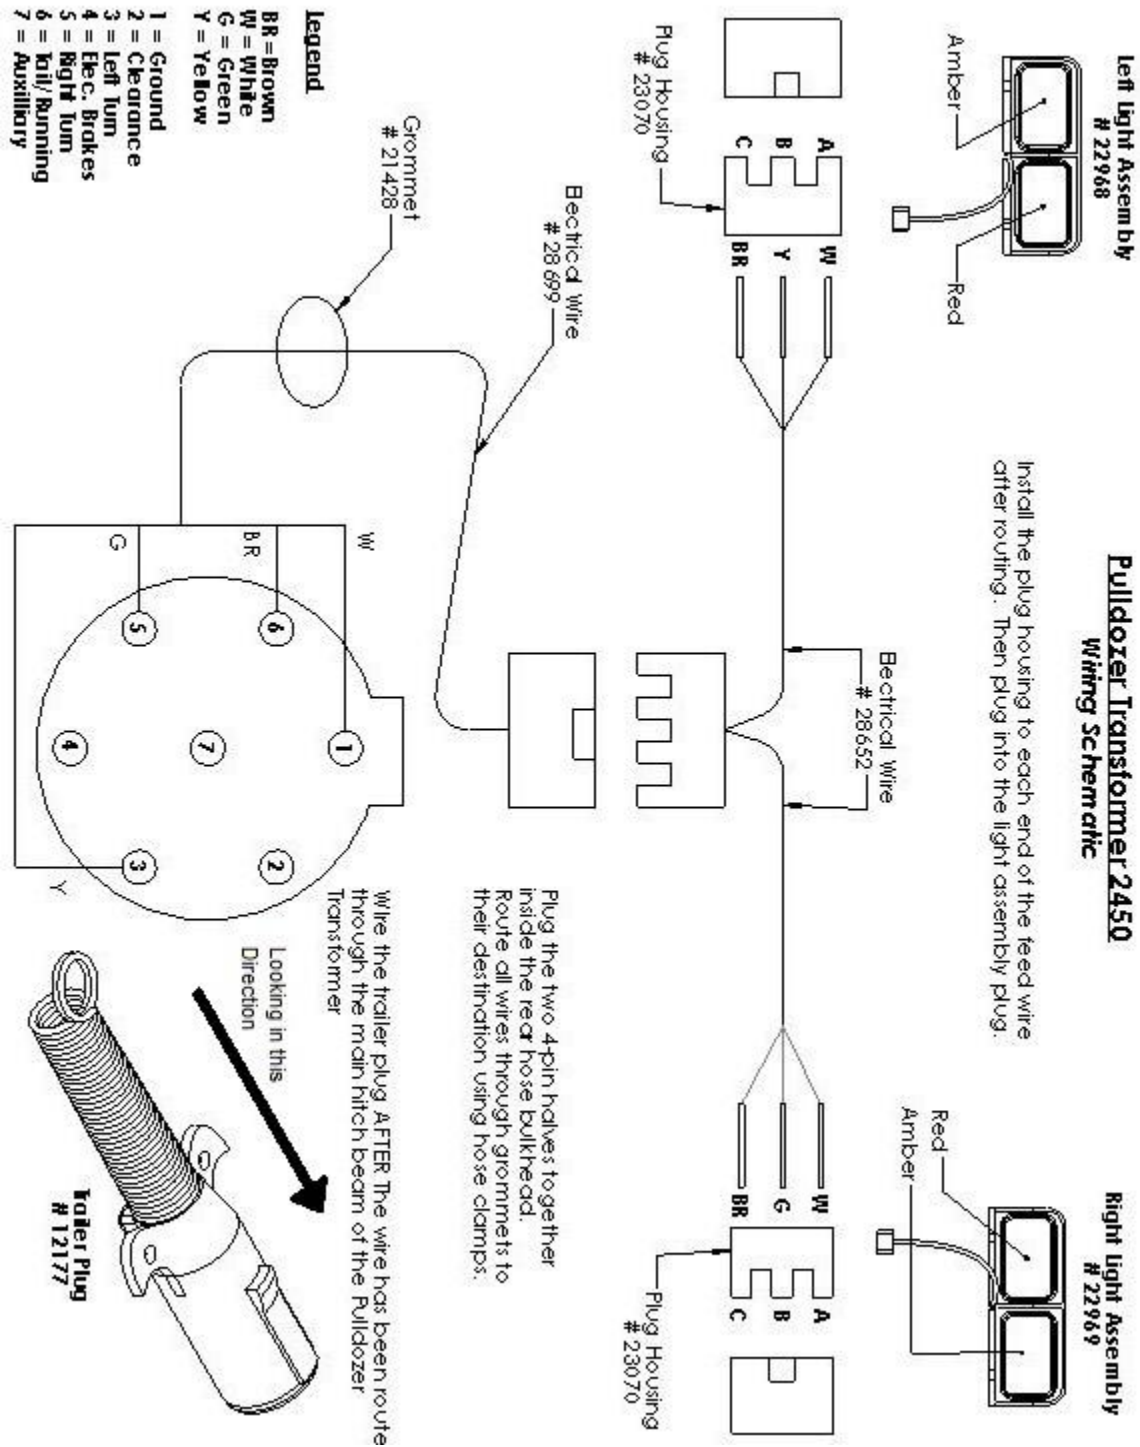
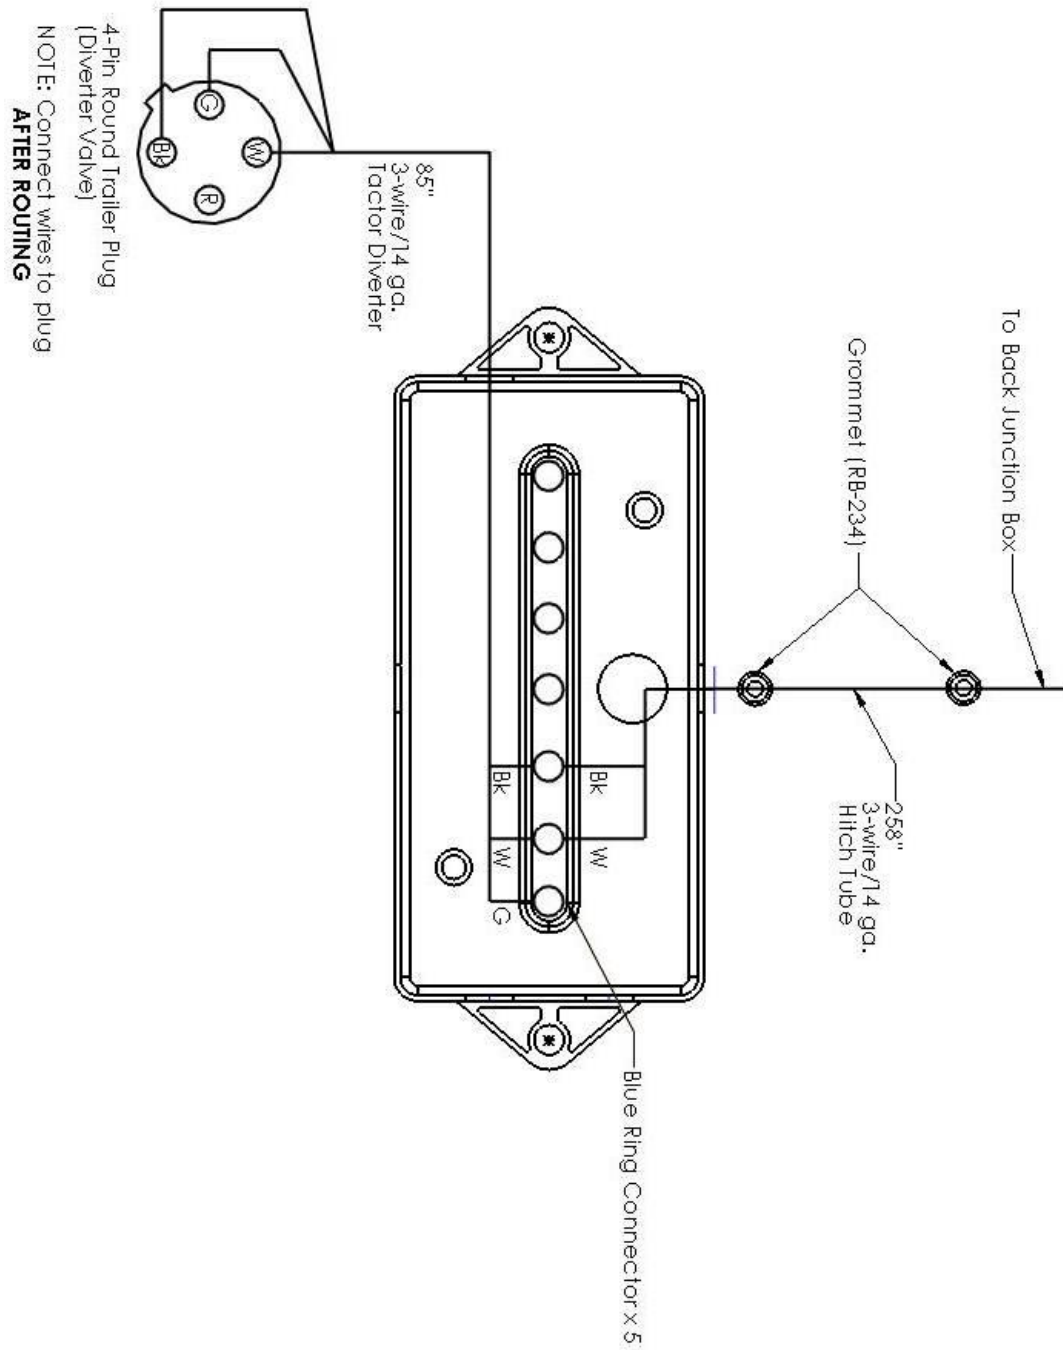

Figure 5 – Light Wiring Diagram
Figure 8 - Front junction box (2450) (S/N PD1192 & Down)
- b) Connect the 7-pin round trailer plug following figure 5.
- d) Connect main harness (28699) to wishbone harness (28652) as shown in figure 5.
- d) Connect both the 7-pin and 4-pin round trailer plug following figure 5 and figure 8 respectively.
d) Connect main harness (28699) to wishbone harness (28652) as shown in figure 5.